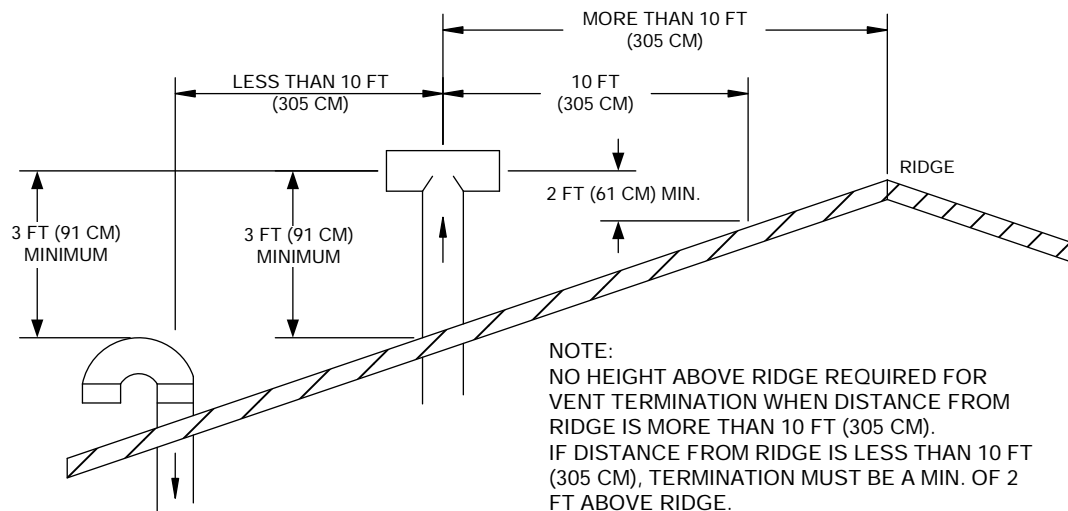

Figure 9. Acceptable Combustion Air Inlet & Vent Outlet Configuration
- Combustion air inlet must be 3 ft below any vent outlet, within 10 ft. See Figure 9.
- Combustion air inlet must also face away from the vent outlet see Figure 9.